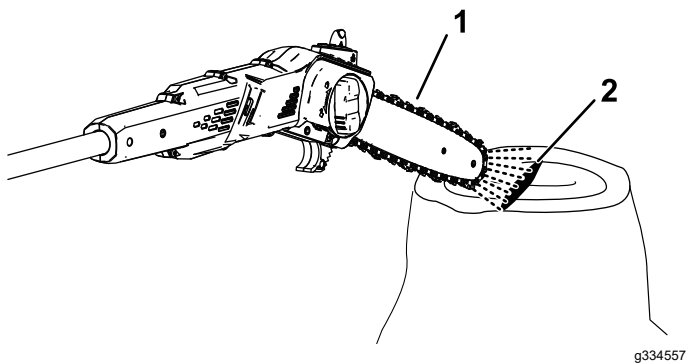

Figure 16
2. To ensure that oil is flowing to the chain, point the nose of the pole saw a few inches from a surface (e.g. paper, cardboard, a stump) and run the pole saw; you should be able to see a light spray of oil on the surface (Figure 16).